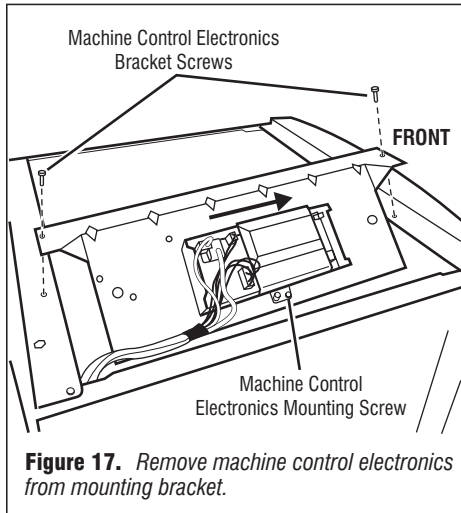
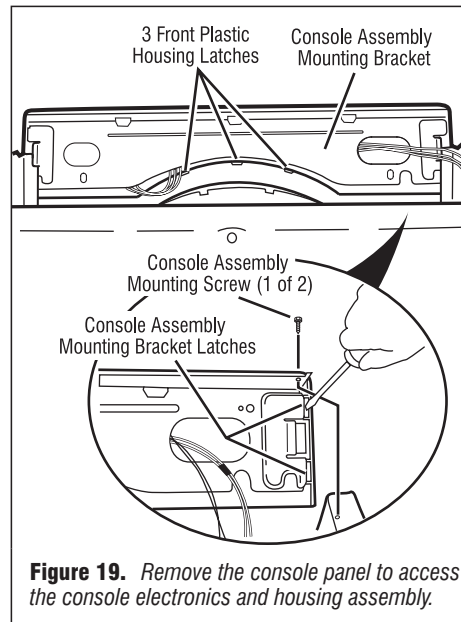

Figure 17. Remove machine control electronics from mounting bracket.
Figure 19. Remove the console panel to access the console electronics and housing assembly.
2. Slide the bracket over the top of the drum to access the machine control electronics connectors and mounting screw. See figure 17.
4. Remove the screw holding the machine control electronics assembly to the mounting bracket. See figure 17.
2. Remove the screw that fastens the assembly to the machine control mounting bracket (figure 17), and the two screws that fasten the console assembly to the machine (figure 19).
3. Slide the console up and off of the machine, gently unlatching the front three plastic housing latches from the front door trim section. See figures 19 and 20.
4. The console mounting bracket is fastened to the console front panel with two latches at both sides of the console assembly. Unlatch the bracket gently with a screwdriver while pulling the mounting bracket assembly out. See figure 19.